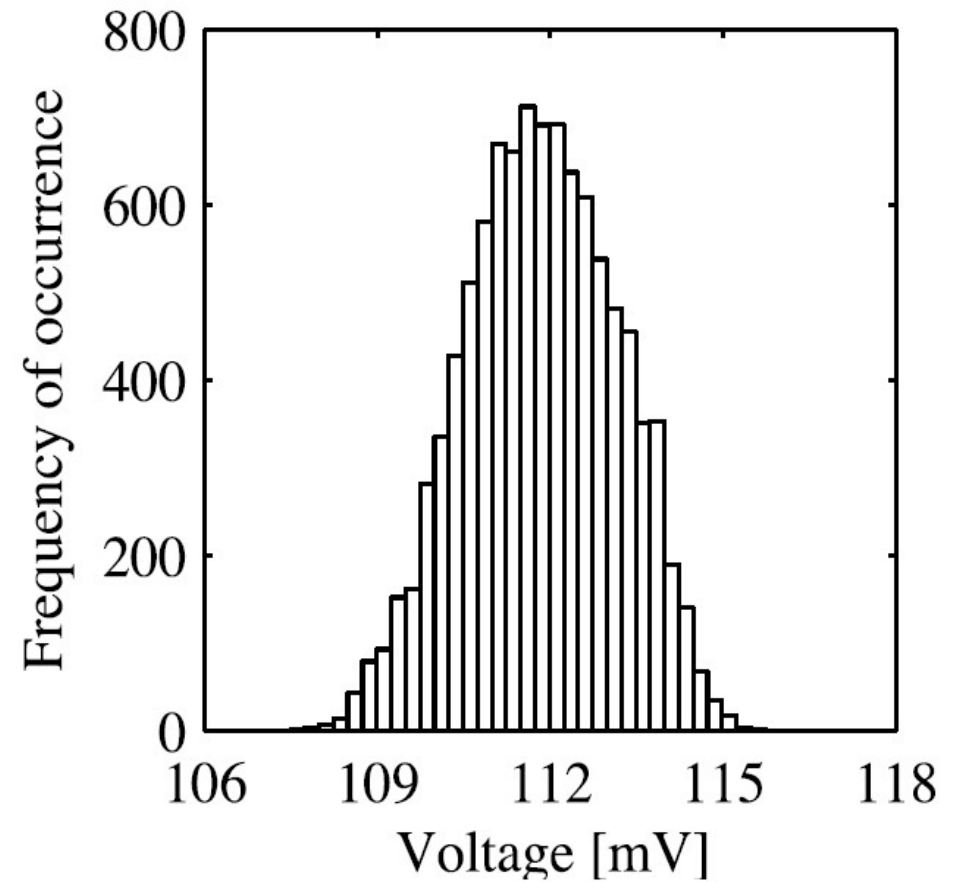

Figure 4.2. Histogram of the power consumption at 362 ns of Figure 4.1.
- Fig. 4.2 shows a histogram of 10,000 power traces of the same operation considering the Voltage across the resistor (recall $P=IV$ and I is typically a constant)